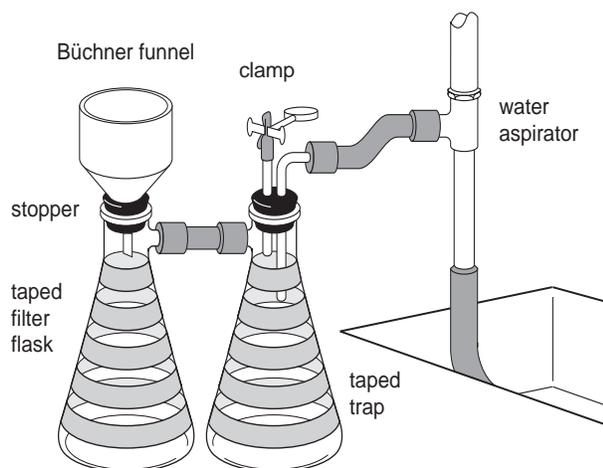

Figure 2 A vacuum filtration apparatus
If your aspirator does not have a trap attached to it as shown in Figure 2, your laboratory instructor will give you information for assembling the trap.
7. Set up the filtration assembly shown in Figure 2. Either place the Büchner funnel with a rubber stopper in the filter flask, or place a rubber adapter on top of the filter flask, and then place the Büchner funnel on the adapter.